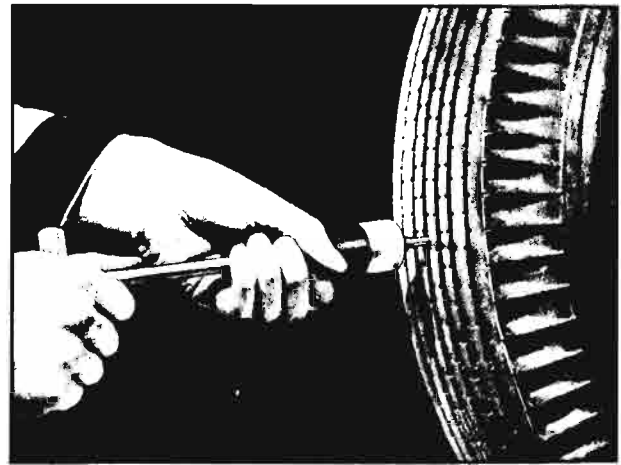

Fig. 3-38—Filling Hole with Sealing Gun
- Using sealing gun, fill puncture from outside of tire, see Figure 3-38.